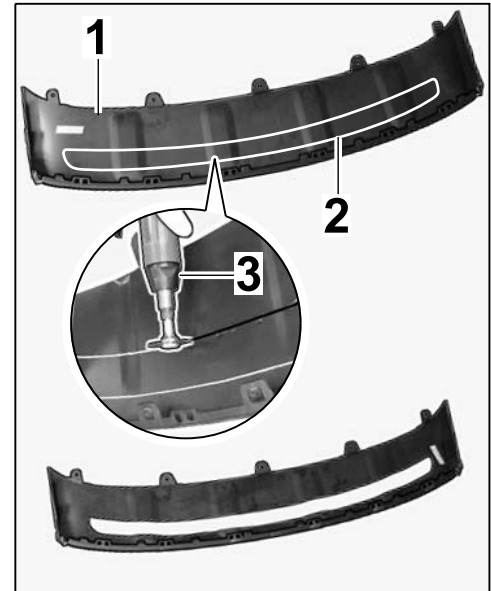

Figure 10
2.2 Make a cut-out in the front spoiler (⇒ *Figure 10*).
2.2.2 Use an air saw to cut out the cut-out in the front spoiler (⇒ *Figure 10 -inset-*).